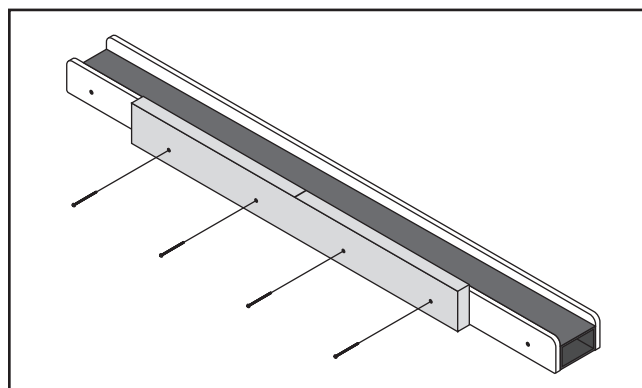

Figure 21. Attaching support board.
10. Attach the support board to the fence with the #10-24 x $2\frac{1}{2}$ " Phillips screws included with the kit, as shown in **Figure 21**.